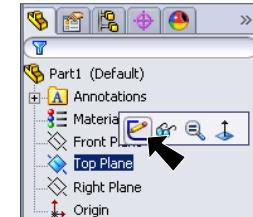
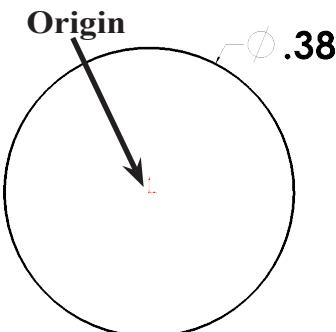

Fig. 1
Fig. 2
Step 2. Click **Top Plane** in the Feature Manager and click **Sketch** from the Content toolbar, Fig. 1.
Step 3. Click **Circle** (S) on the Sketch toolbar.
Step 4. Draw circle starting at Origin , Fig. 2.
Step 5. Click **Smart Dimension** (S) on the Sketch toolbar.
Step 6. Dimension circle **diameter .38**, Fig. 2.